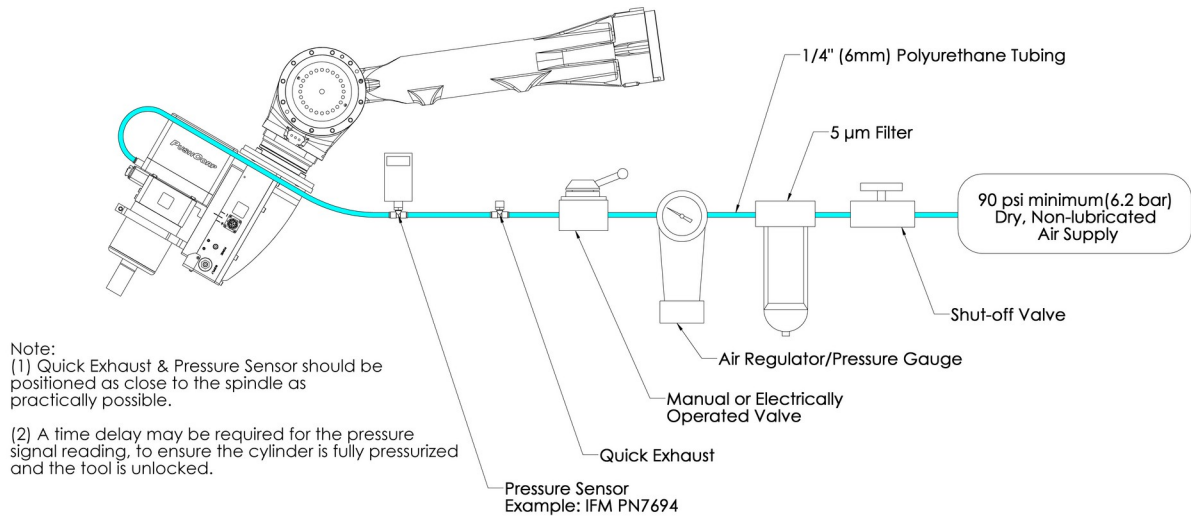

Figure 10: Pneumatic Connections
The pneumatic supply system should be configured as shown in Figure 10 . A manual or electrically operated valve may be used to energize the STC for Toolholder release, but the valve must exhaust **ALL** line pressure when unenergized. PushCorp highly recommends the installation of a quick exhaust valve in the Supply Line to the STC; the quick exhaust valve should be mounted as close to the STC unit as possible. This will minimize the distance exhaust air needs to travel, thus decreasing the time needed for the unclamp cylinder to actuate. Pressure in the line will cause internal components to come into contact. This will either cause the motor not to spin, or cause very high internal forces, eventually friction welding components together. A pressure sensor capable of sensing below 0 psi should be installed in the supply line between the exhaust valve and the STC. PushCorp recommends the pressure sensor from IFM (PN: 7694); it has the capability to sense a pressure range of -14.5 psi – 145 psi.
3. Using a pressure sensor, such as IFM PN7694, verify that you have achieved at least 90 psi, again not to exceed 100 psi (refer to Figure 10 for connection set up)